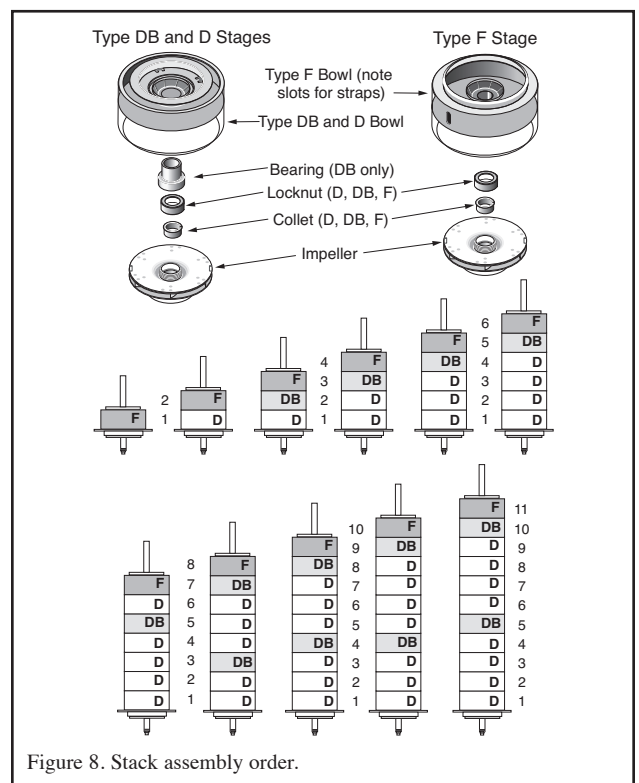

Figure 8. Stack assembly order.
**Step 2.** Remove the top stage bowl from the stack. **NOTE:** make a note of the order of the stages as you remove them (see Figure 8). You must preserve the order when you reassemble the pump.
**Step 5.** Slide a bowl (see Figure 8) down the shaft until it seats on the bottom plate.